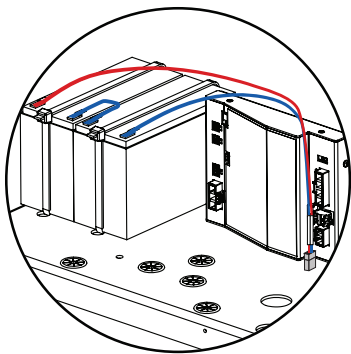

Figure 25. Battery Harness to Drive Module
Operators are factory set for incoming power of 115VAC. If 208/230VAC, change the voltage switch on the power supply to 230VAC with a flathead screwdriver (Figure 24 and Figure 25).
2. Connect the battery harness to the back bottom left hand corner of the drive module. (Figure 25)